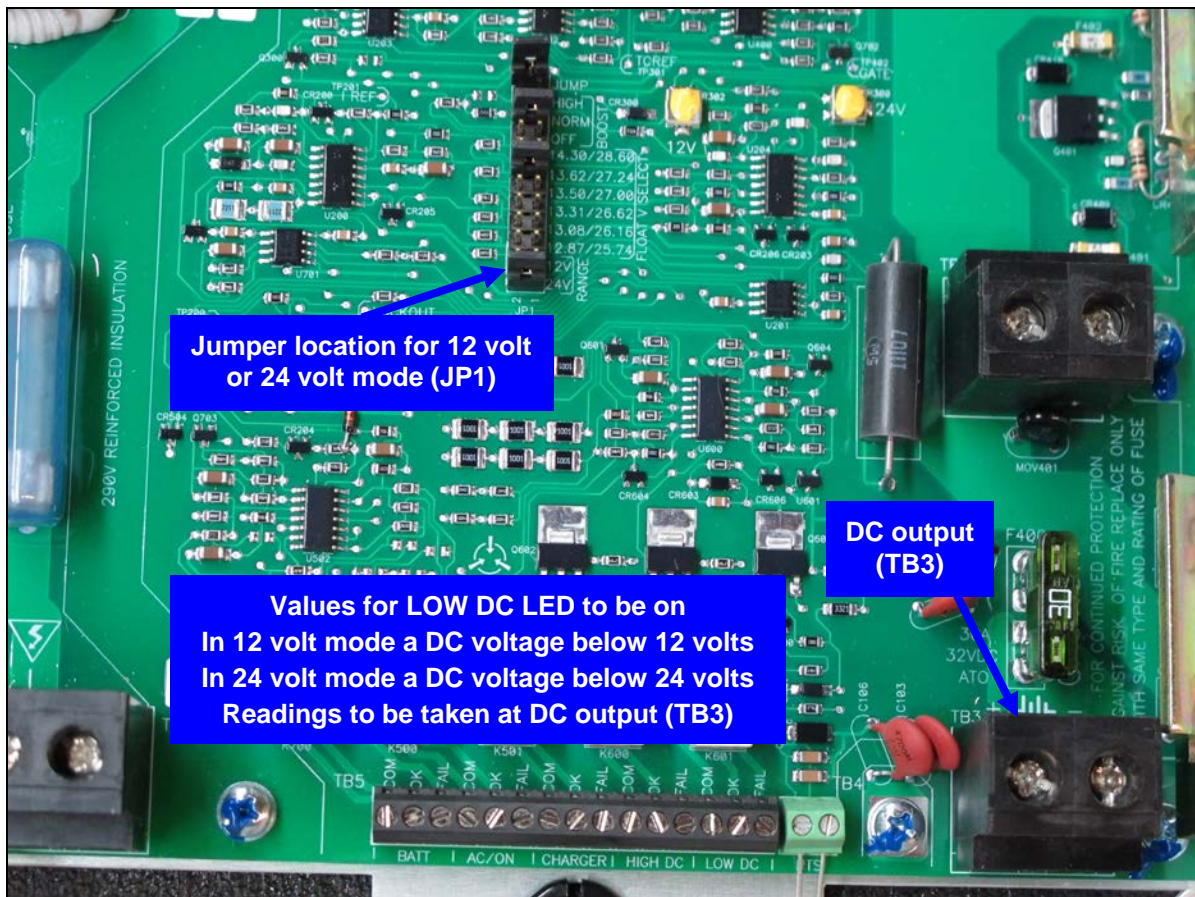

Figure 5
1. High DC Possible Cause 1: Incorrect battery mode setting (see Figure 5)
2. High DC Possible Cause 2: Secondary charging source (see Figure 5)